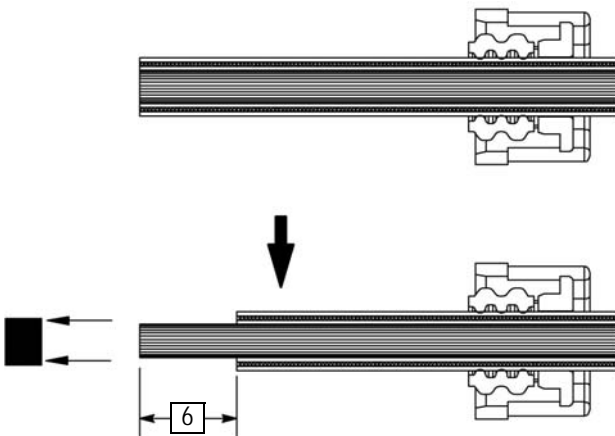

Figure 3
- Cut and remove 6 mm of the braided cable shield, outer jacket, and inner jacket from the end as shown in Figure 3.